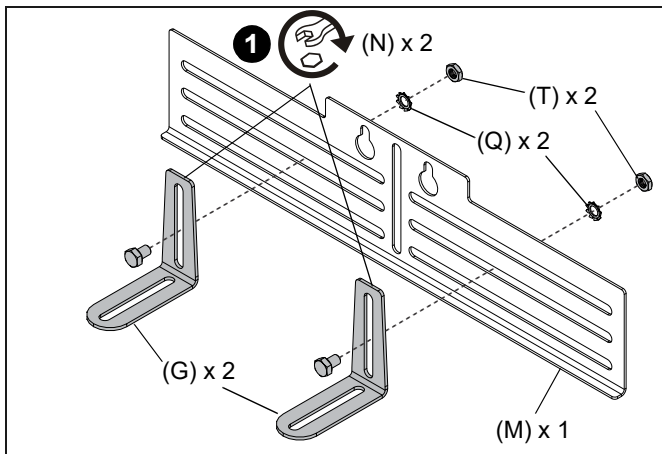

Figure 21
1. Install two camera brackets (G) to the slots in the shelf bracket (M) in the desired locations using two M8 x 12mm screws (N), lock washers (Q), and M8 nuts (T). (See Figure 21)